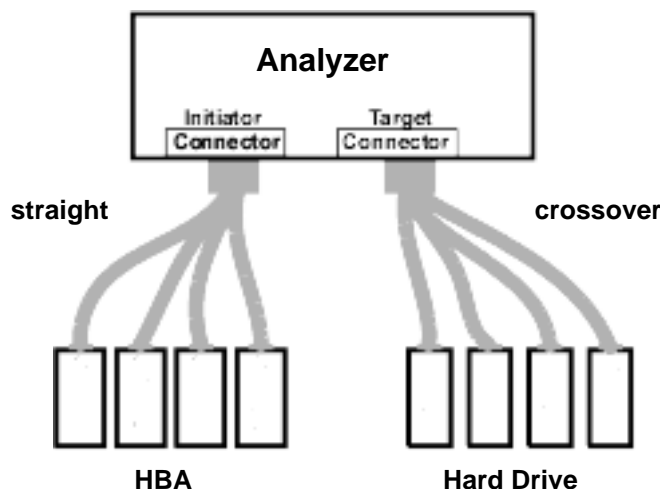

Figure 1.4: Analyzer Connections
3. Connect the analyzer as shown in Figure 1.4.